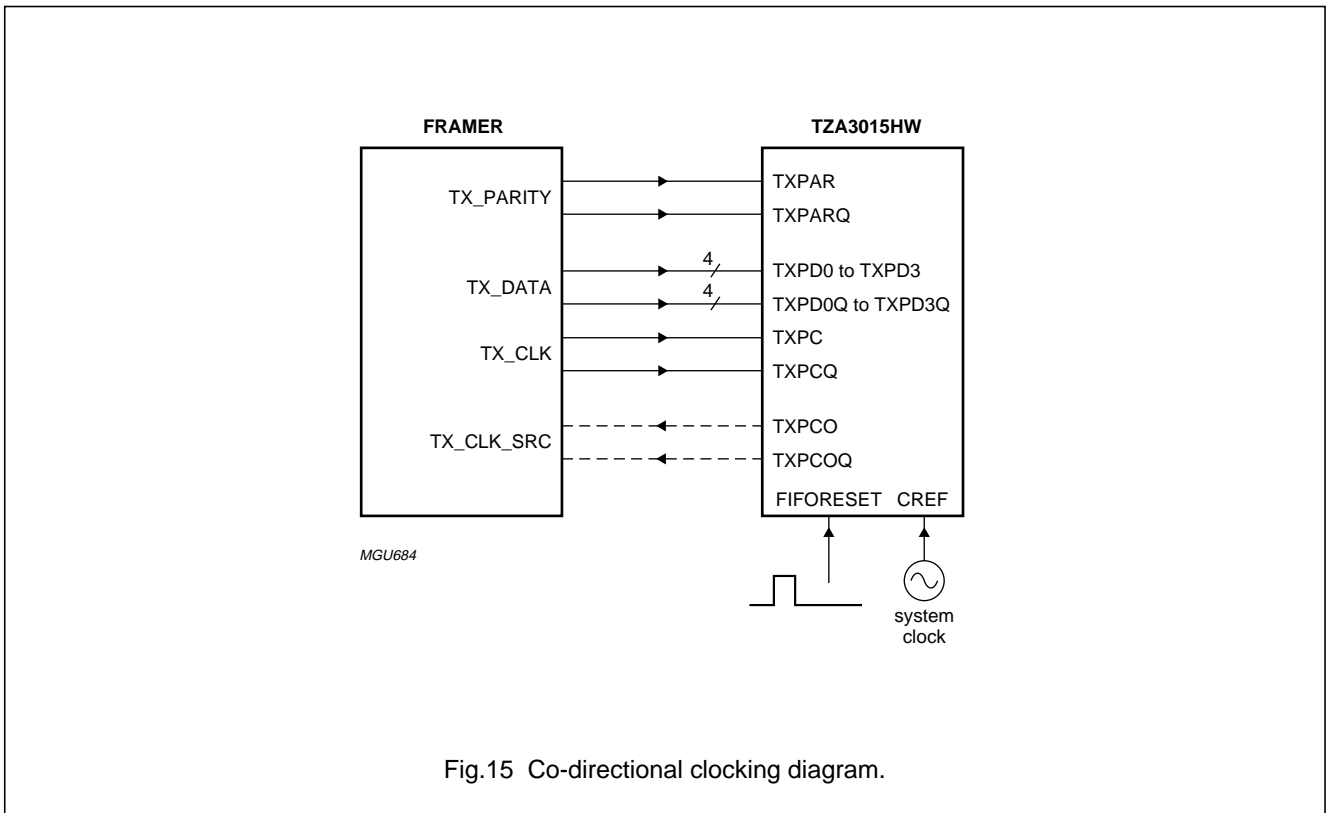

Fig.15 Co-directional clocking diagram.
In the co-directional clocking mode, the parallel clock signal is applied to pins TXPC(Q). The parallel clock signal is generated in the data processing device (e.g. a framer). The co-directional application is depicted in Fig.15. The data processing device may be clocked by an external crystal or by the parallel clock output TXPCO(Q) of the TZA3015HW. This clock output is internally derived from the synthesizer. If the parallel clock output TXPCO(Q) is not required, it can be disabled in order to save dissipation. This is done by programming bit TXPCOEN of register TXMFOUTC (F2h).